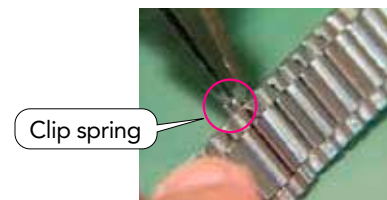

Fig.4
- 2) Hold the protruding end of the clip-spring with pliers to pull out the clip spring. (Fig.4)